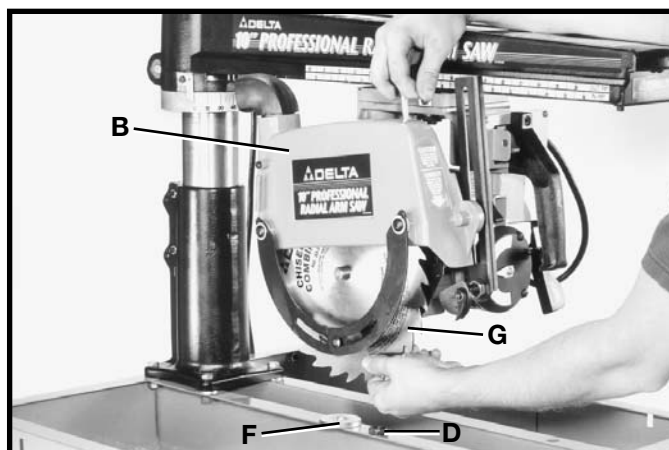

Fig. 14
5. Lift blade guard (B) Fig. 14, and remove arbor nut (D), outer blade flange (F), and blade (G). Then remove blade guard (B).